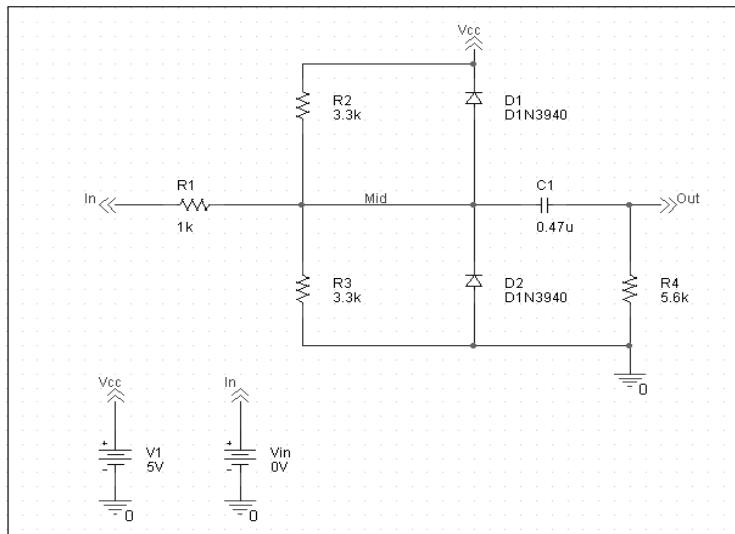

Figure 2 Diode clipper circuit.
This section describes how to use Orcad Capture to create the simple diode clipper circuit shown in Figure 2.
- 6 Move the pointer to the correct position on the schematic page (see Figure 2) and click to place the first part.
- You will change part names and values that do not match those shown in Figure 2 later in this section.
- 3 Follow similar steps as described for the diodes to place the parts listed below, according to Figure 2. The part names you need to type in the Part name text box of the Place Part dialog box are shown in parentheses:
- resistors (R)
- capacitor (C)
- 6 Place the off-page connector parts according to Figure 2.
- 7 To place the ground parts (0), click the GND button on the tool palette.
- 9 Place the '0' ground part from SOURCE .OLB as shown in Figure 2.
- 6 Continue connecting parts until the circuit is wired as shown in Figure 2 on page 2-58.
Label the off-page connectors as shown in Figure 2 on page 2-58.
- 5 Continue naming the remaining parts until your schematic looks like Figure 2 on page 2-58.